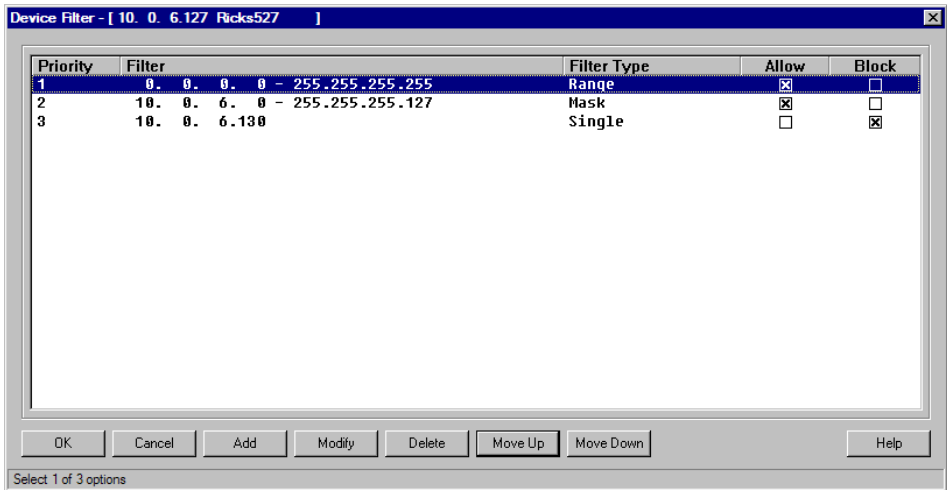

Figure 3-29. Device Filter
2. Highlight the device for which you will define IP filtering and select **Modify**. The system displays the Device Filter dialog (Figure 3-29).